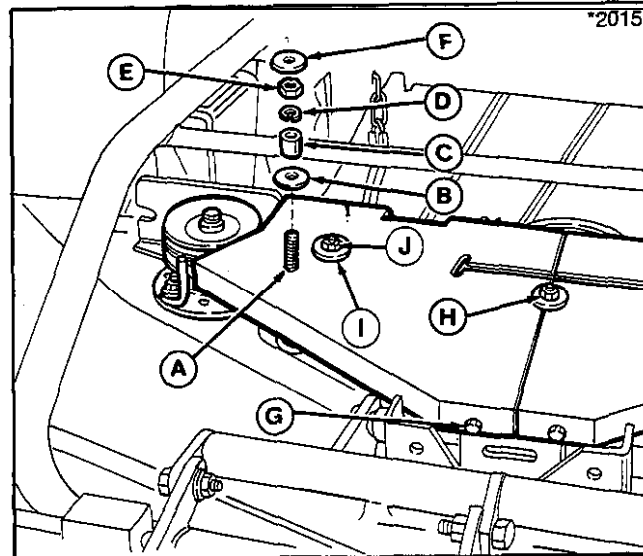
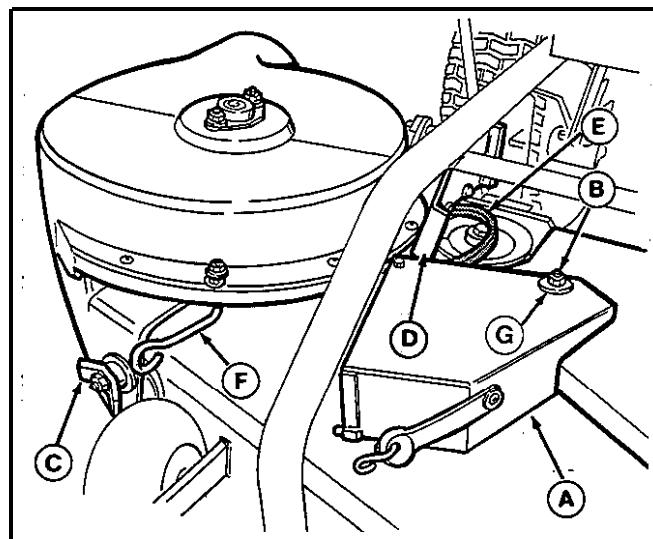

Figure 9.
Figure 10.
14. On new arbor cover, install on top of weld bolt (A, figure 9) the largest washer (B 1-1/2" O.D.), 1/2" spacer (C), lockwasher (D), and nut (E) as shown in figure 9. (Large flat washer (F) shown will be installed in next step).
15. On 2-1/2" idler cover bolt, install belt cover to deck reusing front taptite screw (G) removed in step 1. Install flat washer (I) and flange nut (J, removed in step 4) to secure belt cover. Tighten flat washer and flange nut (H) loosened in step 1.
16. Make sure that flat washer (F, figure 9) is on top of spacer assembly and install new arbor belt cover (A, figure 10) as shown in figure 10. Secure with flat washer (1-1/4" O.D.) and locknut (B). Belt cover should be free to pivot.
- Align the notch on blower assembly with spacer on arbor bracket. Align spacer on blower assembly with notch on arbor bracket. Slide the assembly into place as shown in figure 10 while aligning front notch between cup and wing nut. Tighten wing nut (C, figure 10).
- Raise the flap (D, figure 10) and install the blower drive belt (E) in the top groove of the pulley. Push on lever (F) to provide slack to install belt.